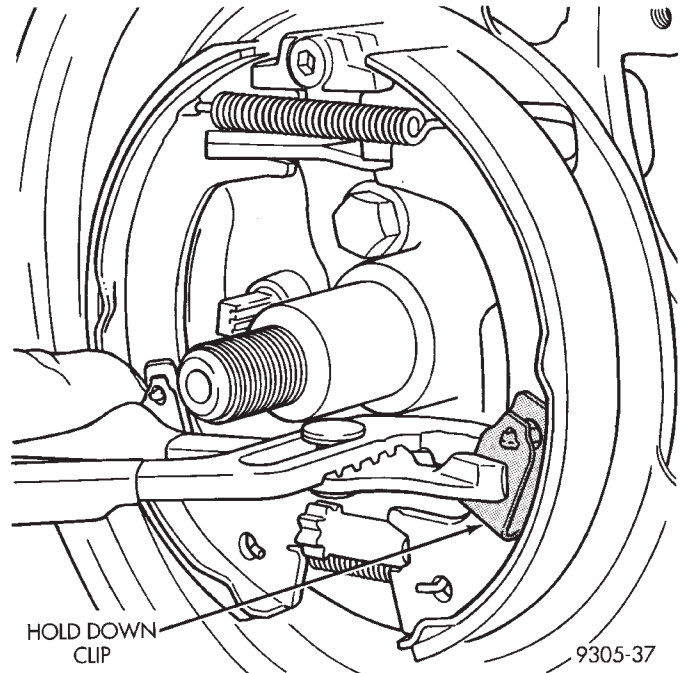
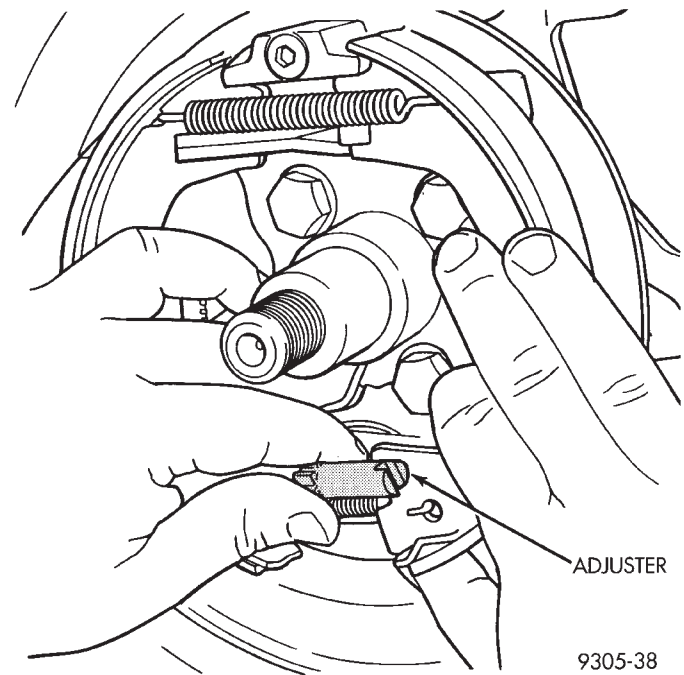

Fig. 168 Rear Park Brake Shoe Hold-Down Clip
Fig. 169 Park Brake Shoe Adjuster
- (1) Remove disc brake caliper from adapter and rotor (See Disc Brake Shoe Removal).
- (2) Remove rotor from hub/bearing.
- (3) Remove dust cap from hub/bearing.
- (4) Remove hub/bearing rear retaining nut and washer.
- (5) Remove hub/bearing from knuckle.
- (6) Remove hold down clip from rear park brake shoe (Fig. 168).
- (7) Turn park brake shoe adjuster wheel until adjuster is at its shortest length.
- (8) Remove the park brake shoe adjuster from the park brake shoes (Fig. 169).
- (5) Install the adjuster between the park brake shoes. Adjuster must be installed with the star wheel toward the rear of the vehicle (Fig. 169).
- (6) Install hold down clip on rear park brake shoe (Fig. 168).
- (7) Adjust park brake shoes to an outside diameter of 171 mm (6.75 inch).
- (8) Install hub/bearing on knuckle.
- (9) Install **A NEW** hub/bearing retaining nut. Tighten the hub/ bearing retaining nut to a torque of 250 N·m (185 ft. lbs.).
- (10) Install dust cap on hub/bearing.
- (11) Install rotor.